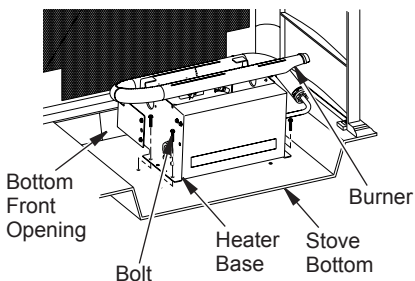

Figure 13 - Placing Heater Base In Stove Cavity (Appearance May Vary Depending on Model)
5. Set gas log heater inside stove (see Figure 13). Make sure control knob extensions pass through bottom front opening.
6. Align outside holes on heater base with four (4) mounting holes on the stove bottom (see Figure 13).